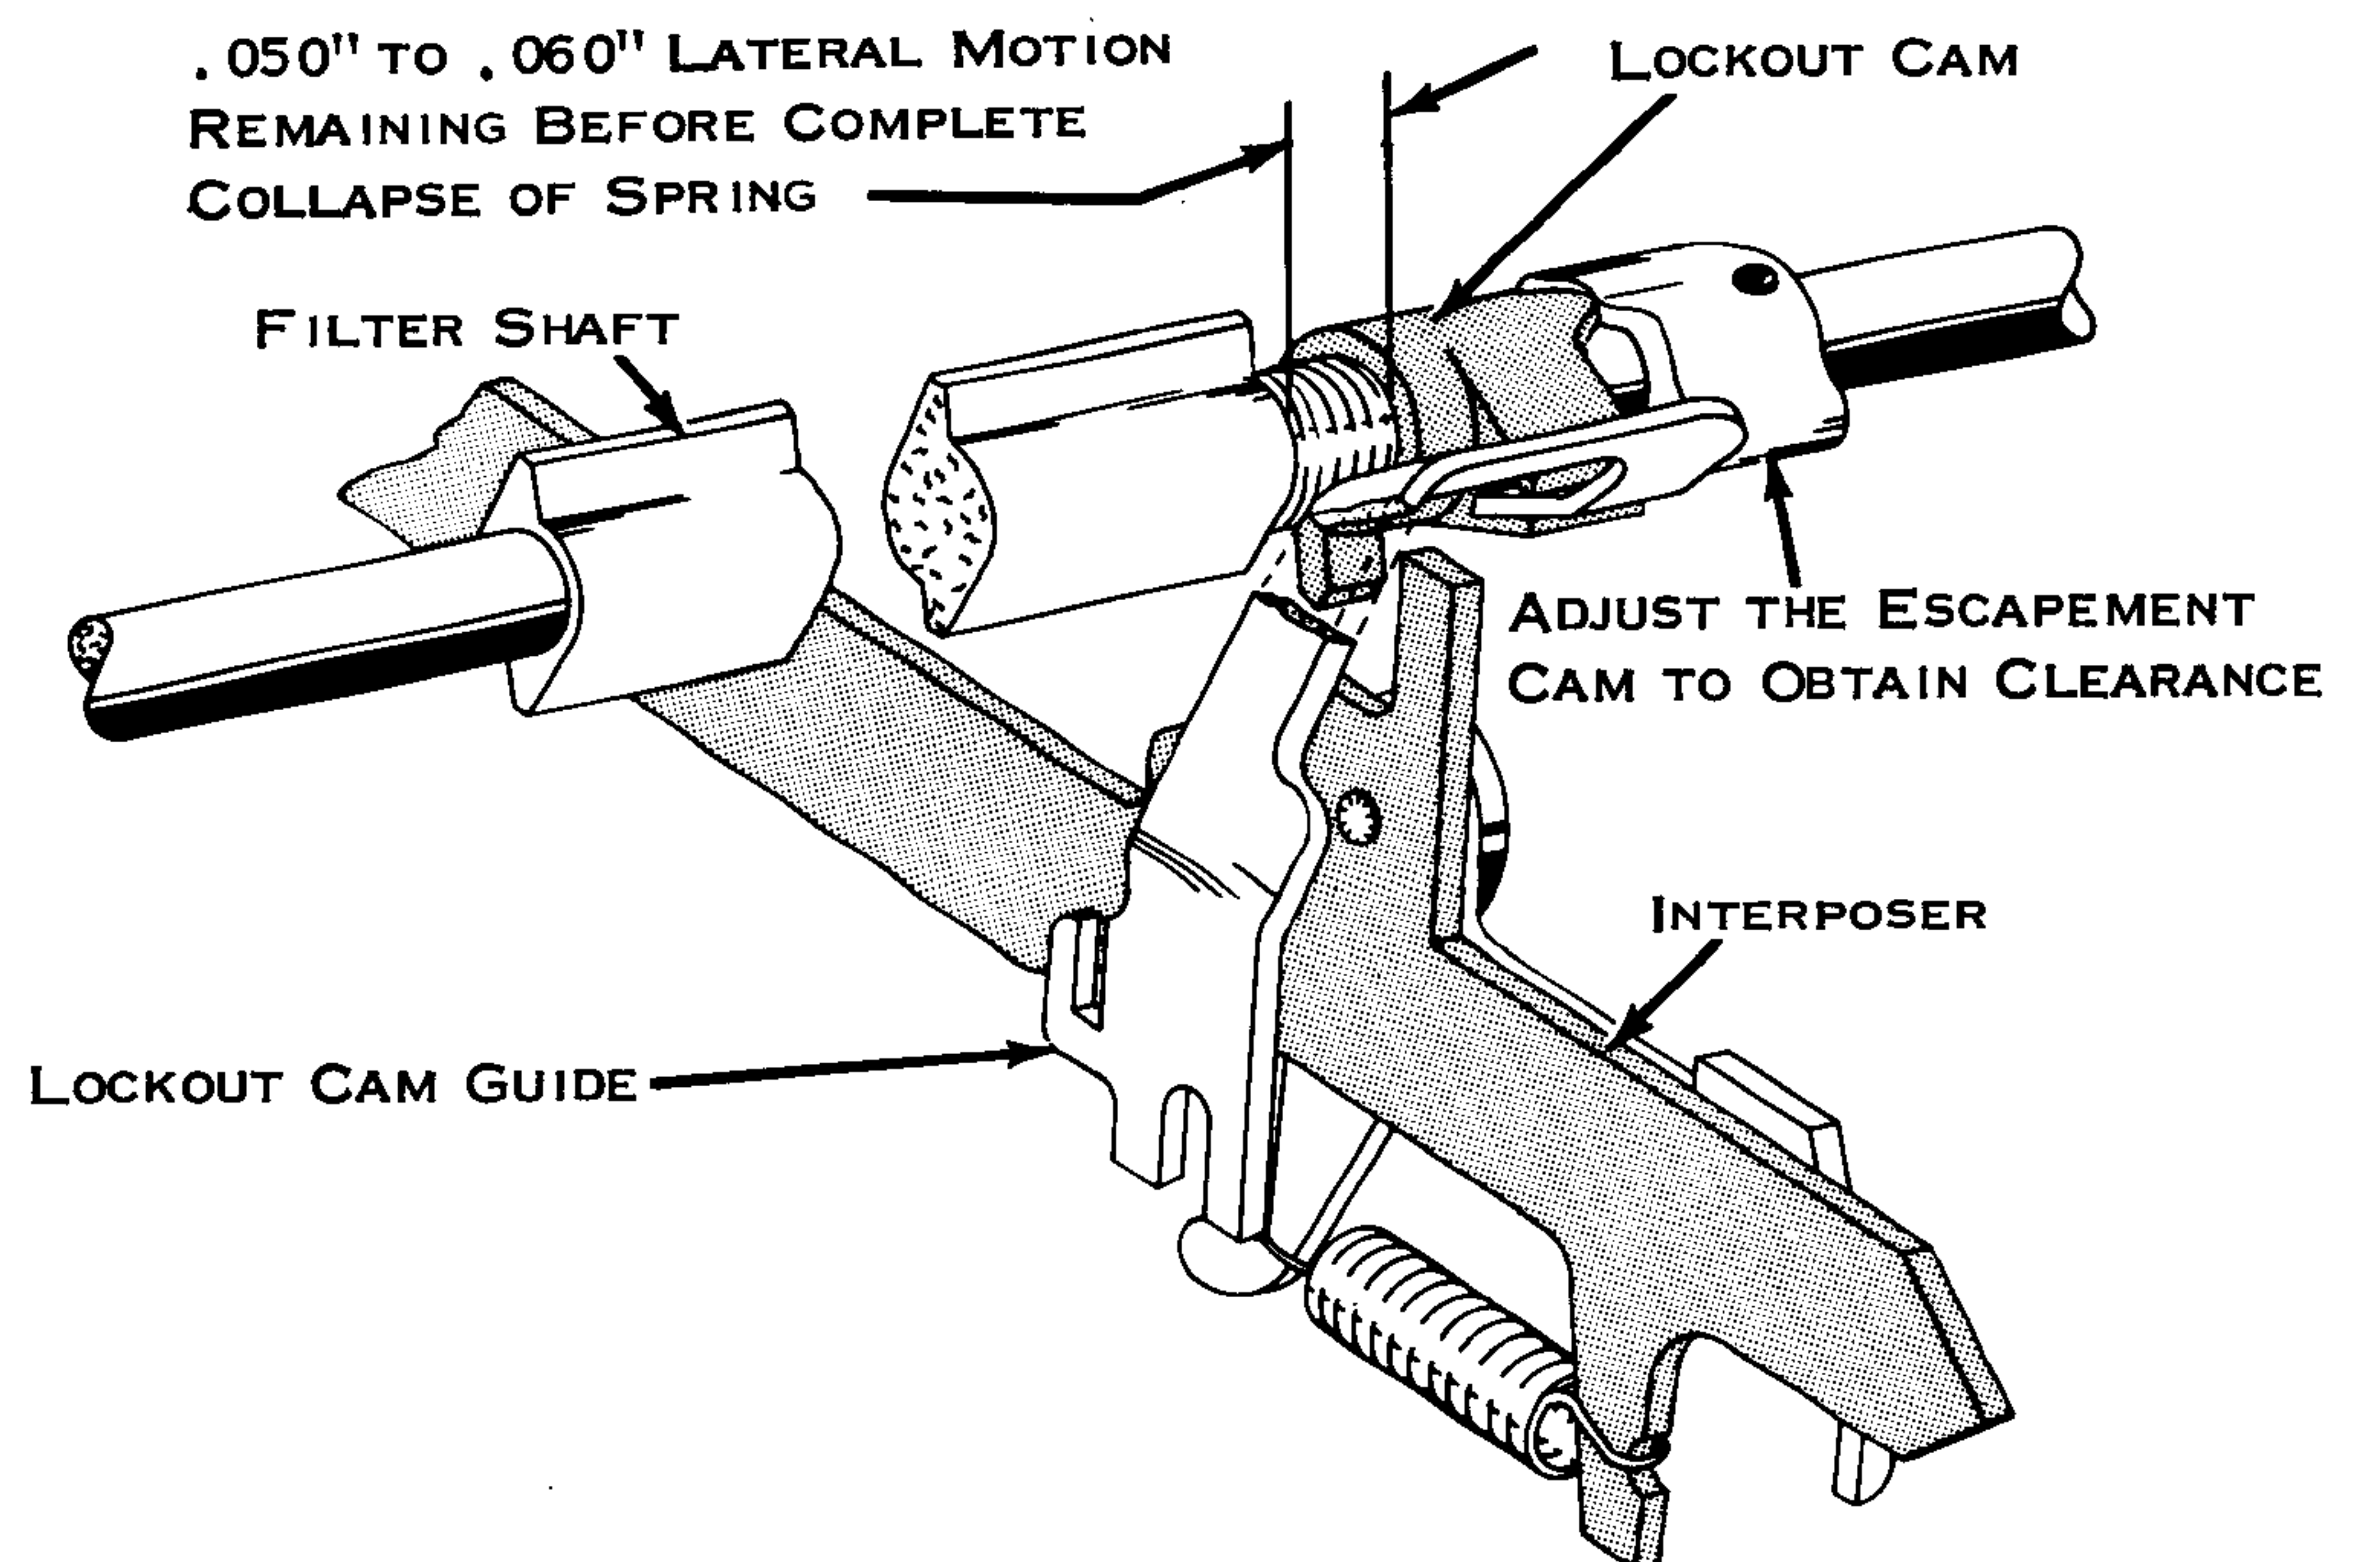

Figure 154. Escapement Cam (Old)
a. Escapement Timing (Fig. 154) - The escapement cam on the filter shaft should be adjusted left to right. When the interlock cam and the escapement cam lateral surfaces are on their high points, .050" to .060" lateral motion should remain before complete collapse of the spring. With machine at rest, rotate the escapement cam so that the follower roller rests on the low dwell and just touches the back side of the cam. CAUTION - Escapement should not occur prior to printing.